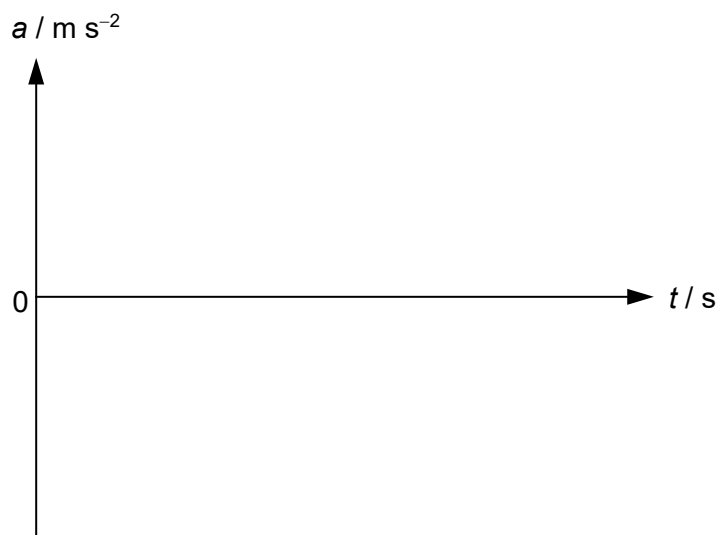

Fig 3.2
- (iv) 1. On Fig 3.2, sketch separate graphs for ball A and ball B to show the variation with time t of each ball's acceleration a .